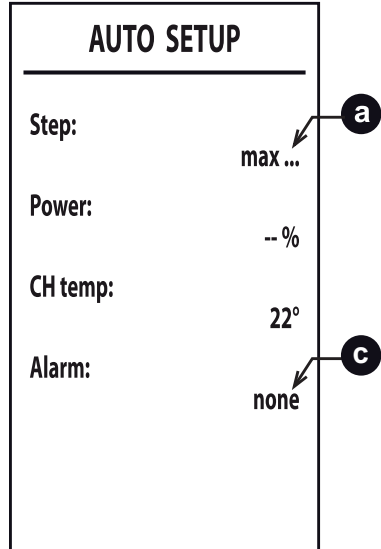

fig. 37
- 5 After ignition, the burner goes to heating at the various powers (max, med, min) indicated by point **a** (fig. 37). If the system heat dissipation is not sufficient to end the procedure, a DHW request can be activated **only after the burner has ignited**.
- 7 If the ignition sequence described in point "6" is unsuccessful, the message **max\_err** will appear at point **a** and an error code at point **c** (fig. 37).